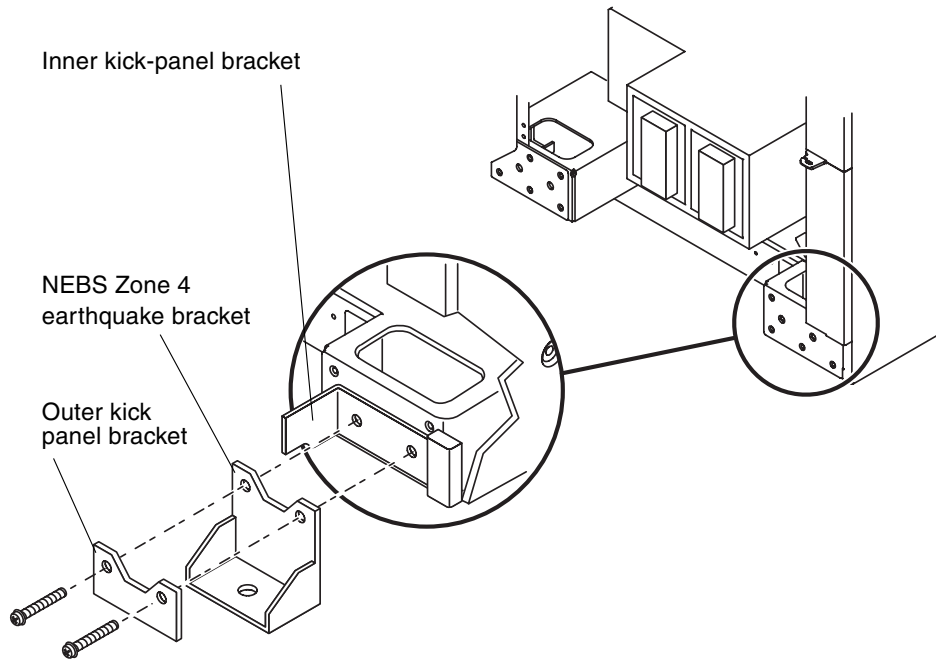

FIGURE 2-4 Bracketing the Sun Fire E6900 System to the Floor
5. Secure all four bracket assemblies to the floor (FIGURE 2-4).